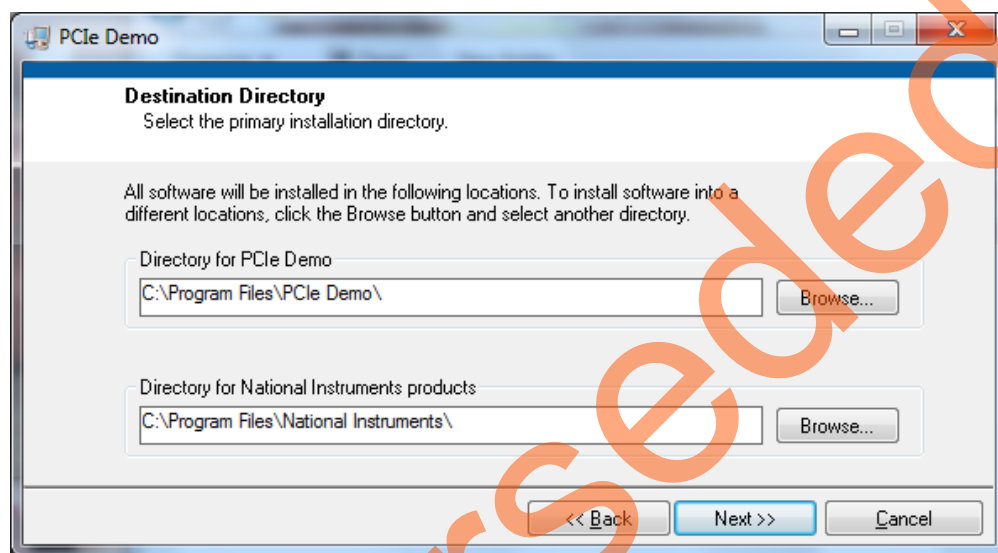

Figure 52 • GUI Installation
2. Double-click the **setup.exe** in the provided GUI installation (*PCIe_Demo_GUI_Installer\setup.exe*). Apply default options as shown in Figure 52.